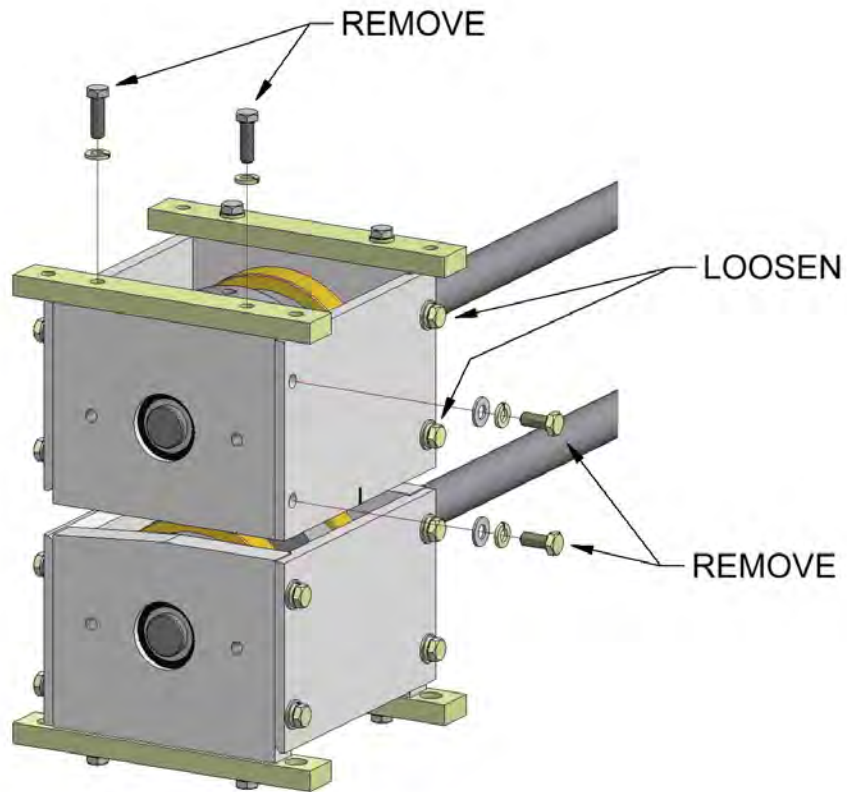

Fig. 8-3. Slitter Knife Removal Step 2
2. Remove the four bolts shown in **Fig 8-3**, and loosen the two bolts shown in **Fig 8-3**.